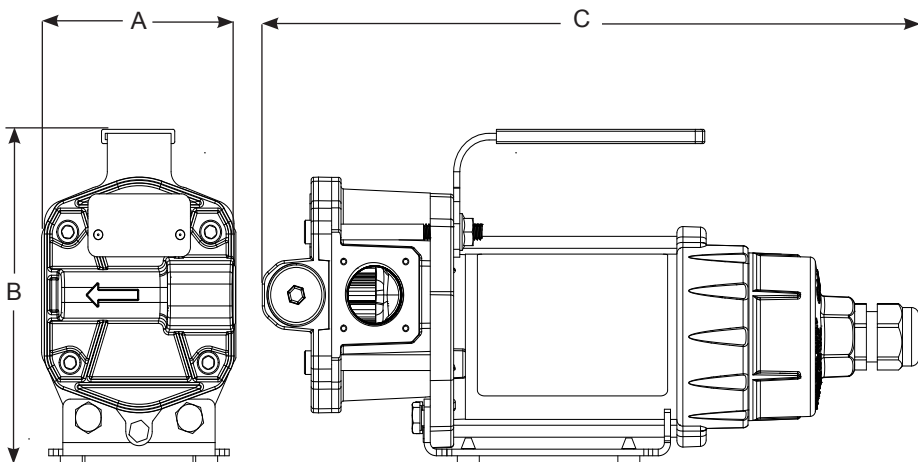

Figure 1
2. Install hose end into inlet side of pump (see Figure 1) and tighten.